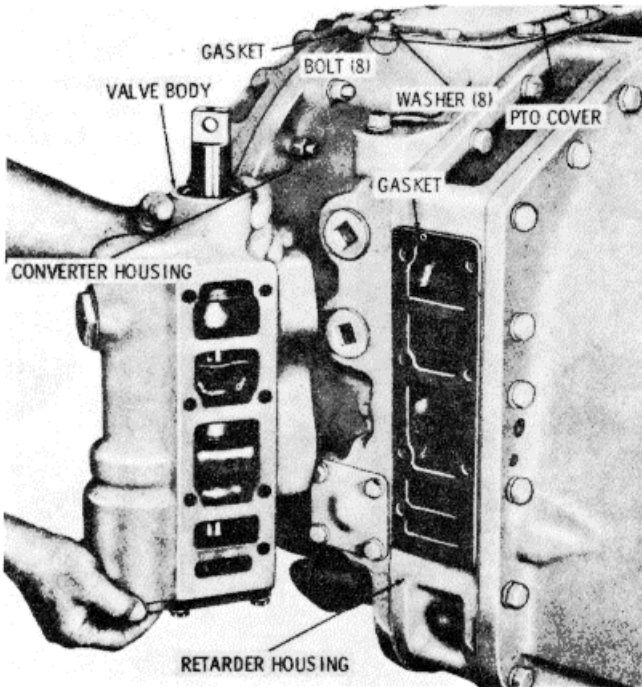

Figure 15-40. Removing Hydraulic Retarder Control Valve Body Assembly
10. Remove seven bolts 1 (A, Foldout 7) and lockwashers 2 from hydraulic retarder valve body assembly 4. Remove the valve body (Figure 15-40). Remove gasket 18 (A, Foldout 7), and plate 17 and gasket 3 (if present). Discard the gasket(s).